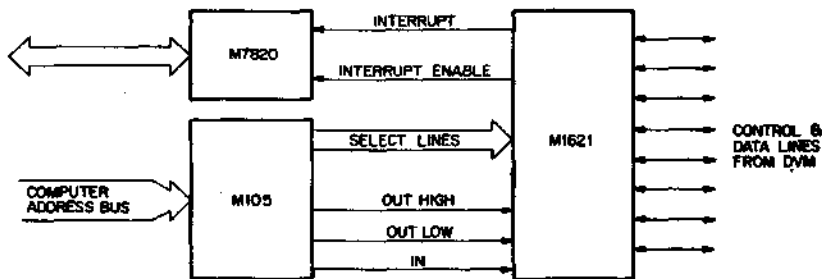

Figure 1. Typical PDP-11 Interface
**PDP-11 Interfacing:** For interfacing to the PDP-11, the M1621 must be used with the M105 Address Selector (or equivalent). The M105 decodes the UNIBUS address lines and causes transfer of information through the M1621 under program control. Interrupt circuitry is also built into the M1621 and can be used in conjunction with the M7820 or equivalent. An example of a typical PDP-11 interface using the M1621 is illustrated in Figure 1.